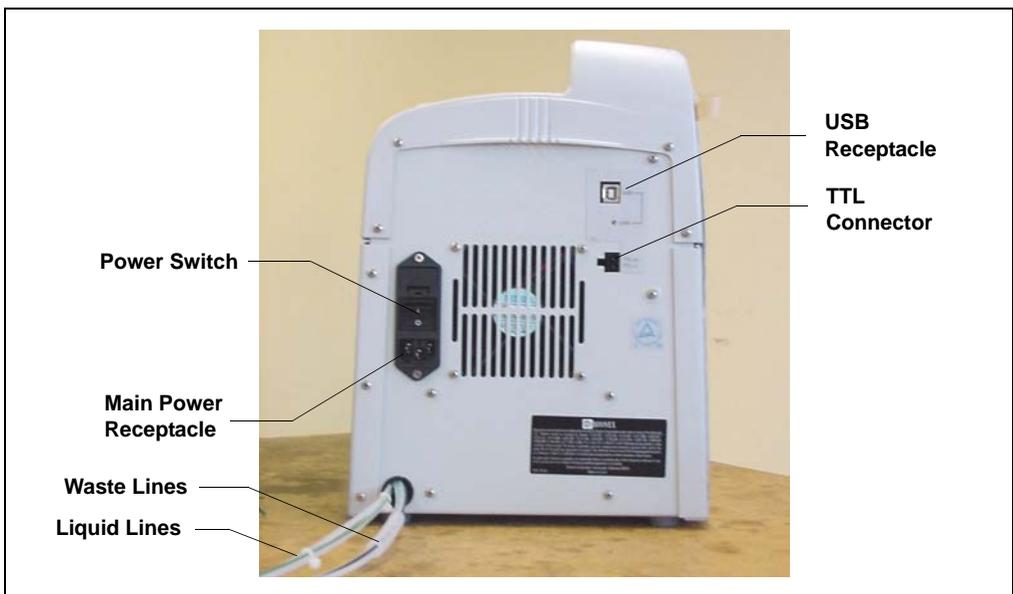

Figure 2-4. ICS-90 Rear Panel
The ICS-90 rear panel (see Figure 2-4) provides one USB receptacle. Select one of the following methods for connecting the ICS-90 to the PC on which Chromeleon or Chromeleon Xpress is installed:
2. Connect the power cord (IEC 320 C13) from the main power receptacle on the rear panel (see Figure 2-4) to a grounded power source.